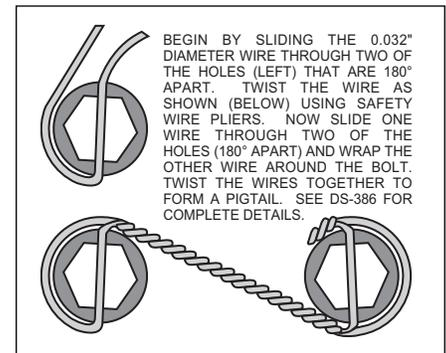

Figure 3. Safety Wire Diagram
•With the larger I.D. side of the rotor (3) facing away from the hat (4), bolt rotor (3) to hat (4) through the backside of the rotor using washers (5) and bolts (6). Torque bolts (6) to **85 in-lb**. Safety wire bolts (6) using standard 0.032 inch diameter stainless steel safety wire as shown in Figure 3. Please refer to Wilwood's data sheet DS-386 (available at www.wilwood.org/ds386.pdf) for complete safety wire installation instructions. Slide the rotor/hat assembly onto the spindle. Install a couple of lug nuts (hand tighten) to keep the rotor/hat assembly in place while continuing with the installation.
•**NOTE:** Please reference the caution statement at the beginning of the assembly instructions. With the bleed screws pointing up, mount the caliper (7) onto the caliper bracket (1) with the self locking hex nut (8), flat washer (9), through the top of the caliper and mounting stud (10) with flat washer (11) positioned between caliper (7) and caliper mounting bracket (1). Finger tighten. View the rotor (3) through the top opening of the caliper (7). The rotor (3) should be aligned in the center of the caliper (7). If not, adjust the caliper (7) by using 0.035 inch thick shims (2) placed between the spindle assembly and the caliper mounting bracket (1). Finger tighten and recheck alignment. Lubricate caliper mounting studs and nuts with lightweight oil, reinstall the caliper, torque the caliper nuts to 30-35 ft-lb.
•Remove the bridge bolt from the caliper (7) and install the disc brake pads (12). Reinstall the caliper bridge bolt.